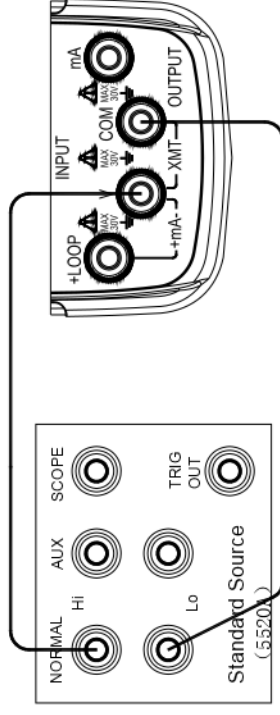

Figure 10-3
- 2) Connect to the Instrument as shown in Figure 10-3;
- 4) Set the output of standard source as the value given in Table 10-3 and when the output stabilized , press the key (100%/START) , and the LCD displays 'SAVE' , denoting that the calibrated point has been stored;